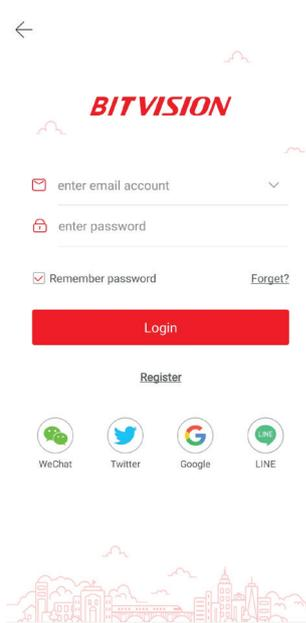

Fig.20
- Click on the human symbol in the upper part of the menu, in order to open the login window (Fig. 20).